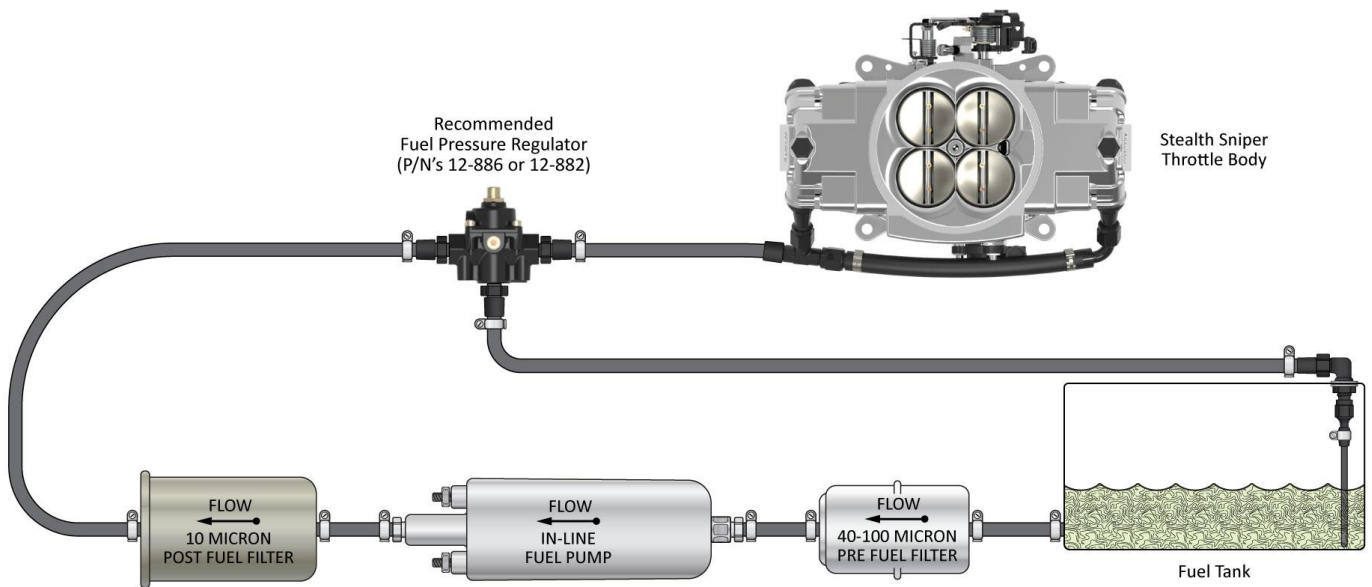

Figure 5
6. It is mandatory to use an external fuel pressure regulator and to feed both front and rear fuel injector covers. The included fuel log tees to both the front and rear fuel injector covers. Holley 12-848 or 12-851 are the recommended bypass fuel pressure regulators based on how much HP the application makes. Reference Figure 5 for plumbing diagrams and recommended fuel system components.